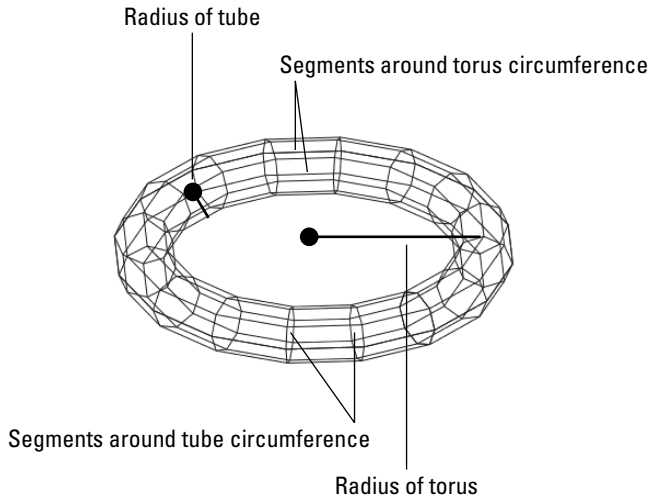

**Figure 23-20:** A torus.
A *torus* is a 3D donut, as shown in Figure 23-20.
3. At the Specify radius of torus or [Diameter]: **prompt**, specify the radius of the torus, as shown in Figure 23-20, or use the Diameter option to define the diameter.